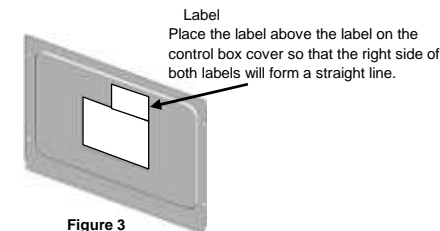

Figure 3
(5) Attach the label (), which has the cautionary notes on replacing the circuit board, to the control box cover. (Figure 3)
(6) Replace the top panel, bottom panel, and control box cover.